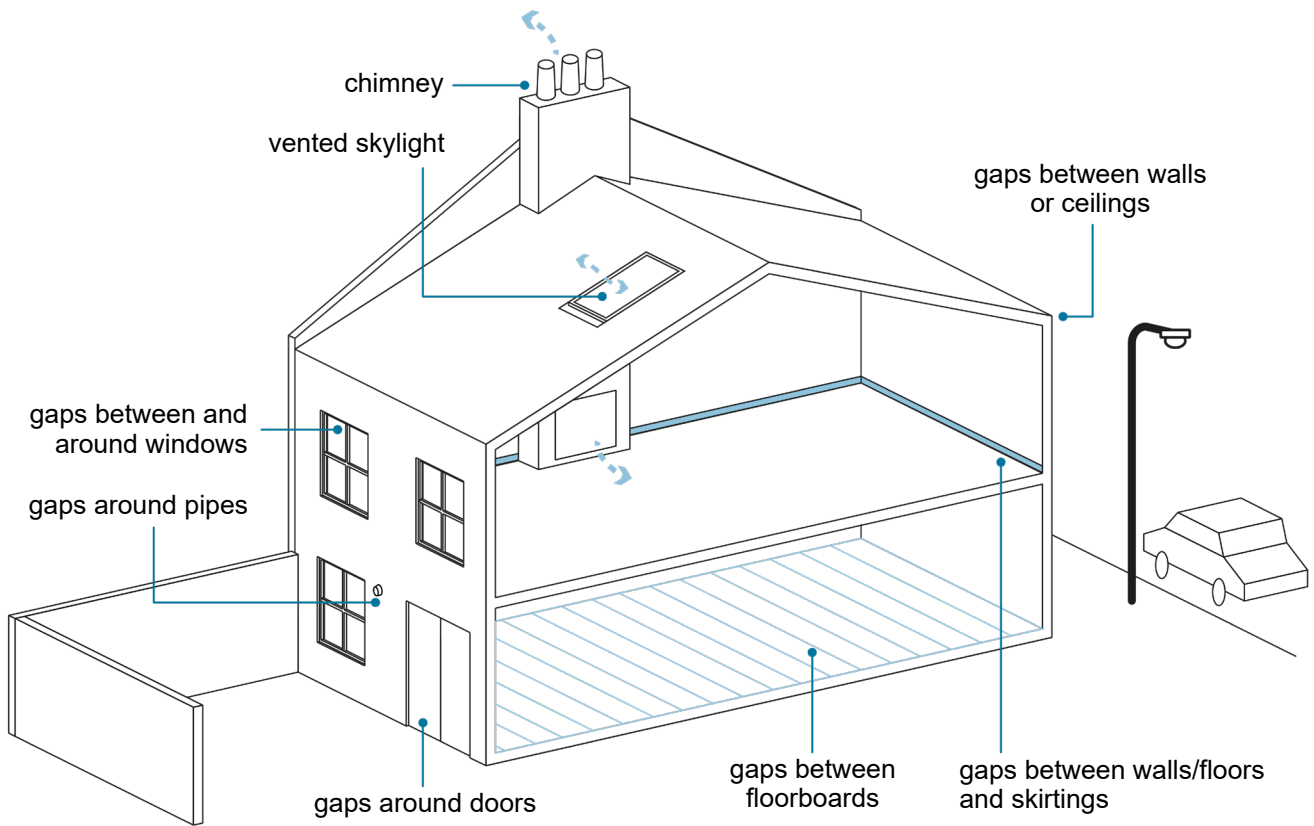

Figure 4: Find and fix gaps
**Figure 4** on the next page demonstrates how to find and fix gaps within your home.